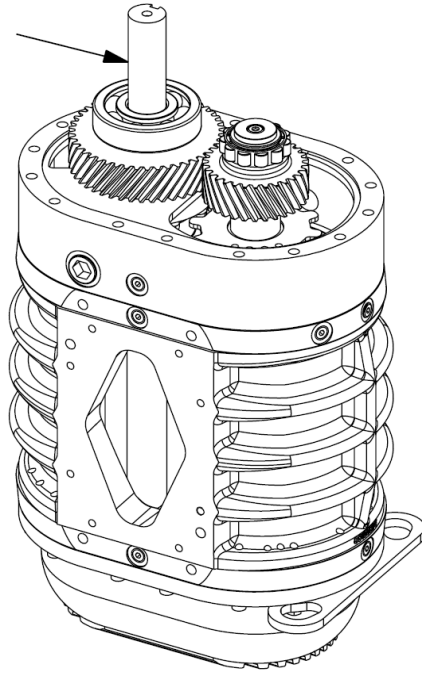

Figure 7-75: Input shaft installation
9. Remove the fill and oil level plugs of each reservoir as seen in **Figure 7-75**.